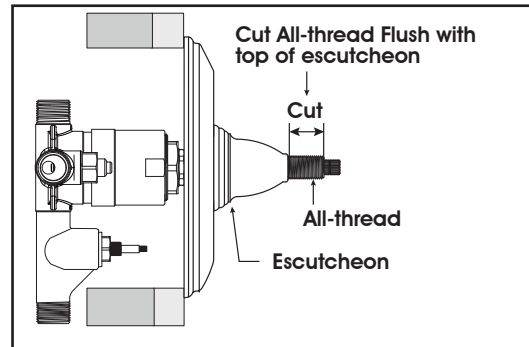

FIG. 4b
2. Screw on escutcheon to all thread and mark nipple where excess thread needs to be cut off, allowing stem to extend. FIG 4b.